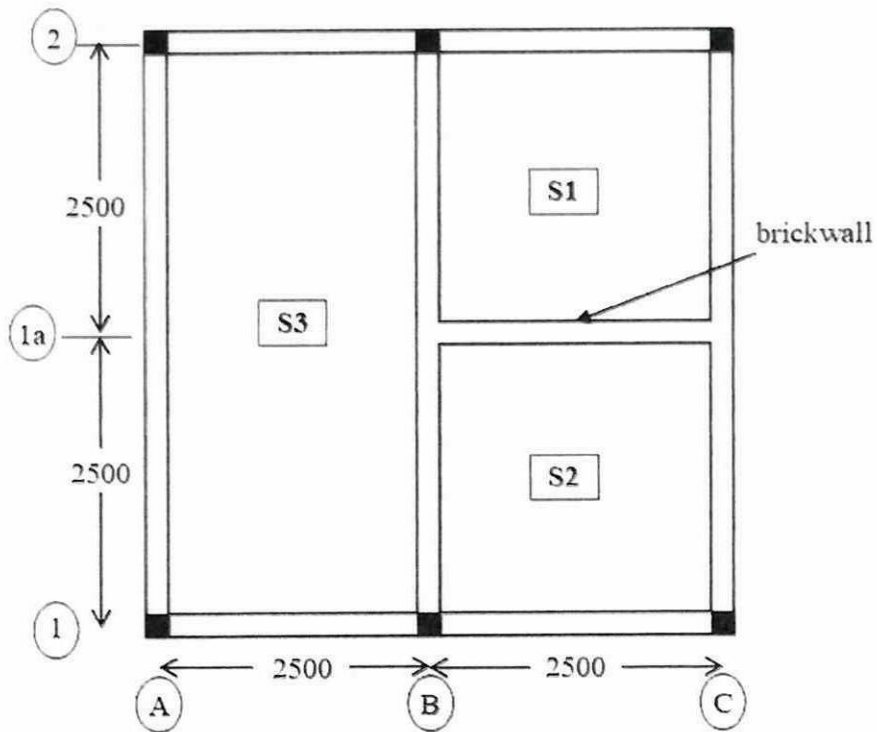

Figure Q2(b)
- (b) **Figure Q2(b)** shows the plan view of slab-beam system in a building. As a result of ongoing construction works, both the beam and a part of the slab are required to function act as a pre-cast concrete slab. Given;